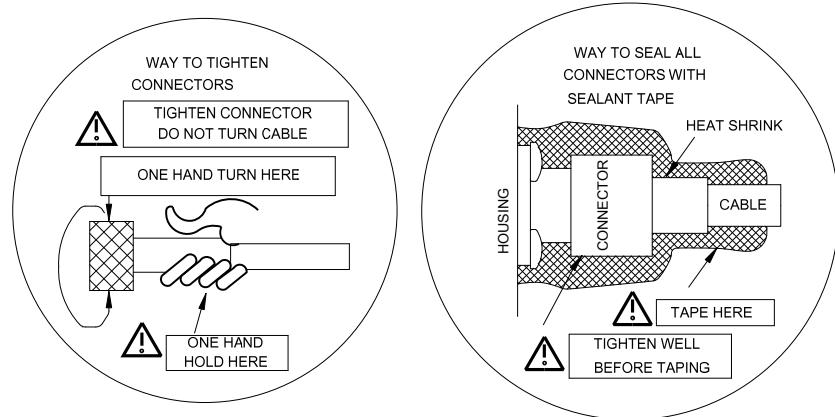

Figure 3.1 Sealing the connectors
Step 2 The sealing must cover from the housing of the ACU until after the heatshrink sleeve. Refer the Figure 3.1 for the sealing.